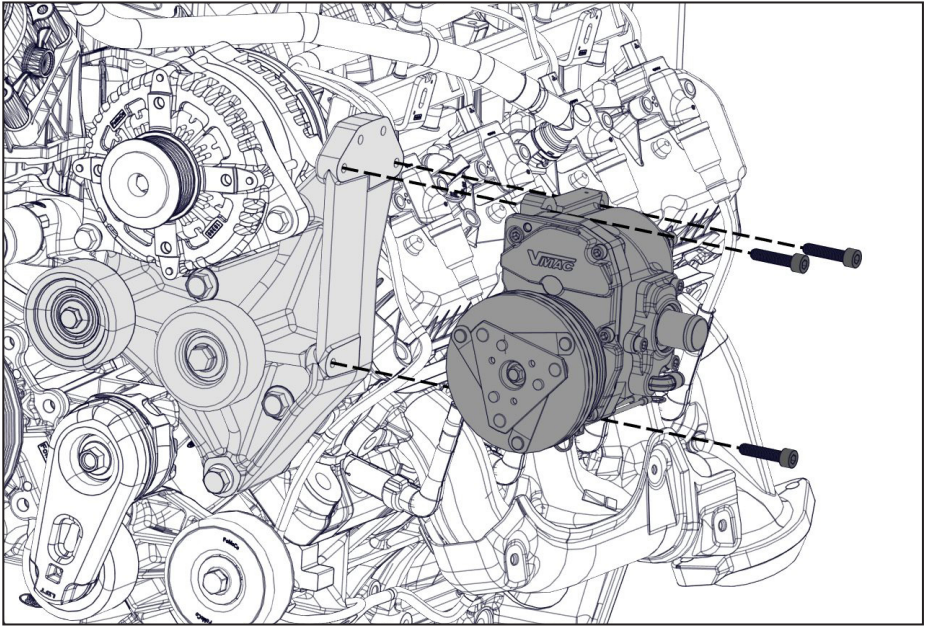

Figure 9 — Mount compressor
- Using the supplied fasteners, mount the compressor onto the main bracket (Figure 9).